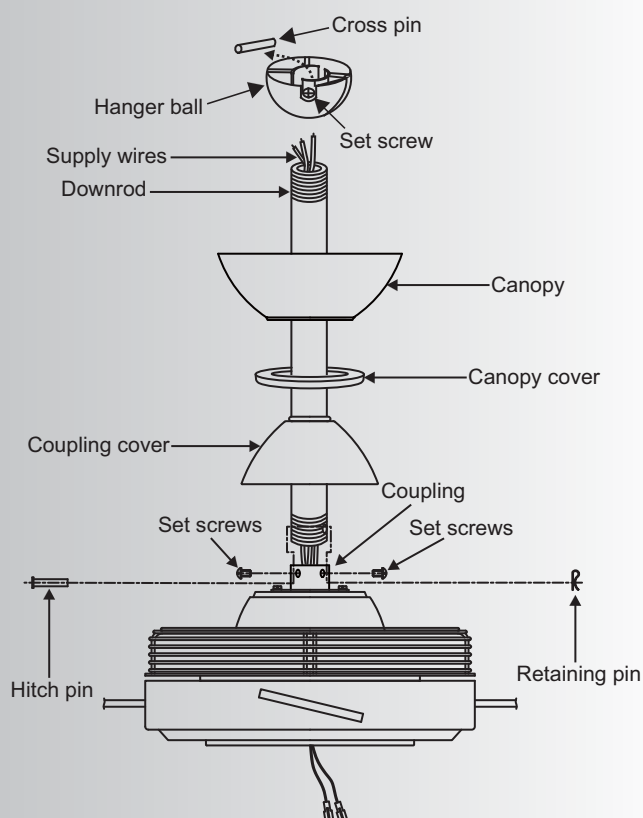

Fig. 10
Step 1. Remove the hanger ball from the downrod assembly by loosening the set screw, removing the cross pin and unscrewing the ball off the rod. (Fig. 10)
Step 2. Loosen the two set screws and remove the hitch pin and retaining clip from the coupling on top of the motor assembly. (Fig. 10)
Next, replace the hitch pin and retaining clip. Tighten both set screws. (Fig. 10)
Thread the hanger ball onto the downrod, insert the cross pin through the downrod and tighten. Now tighten the set screw. (Fig. 10)